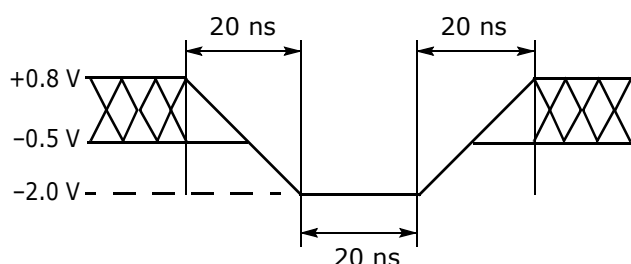
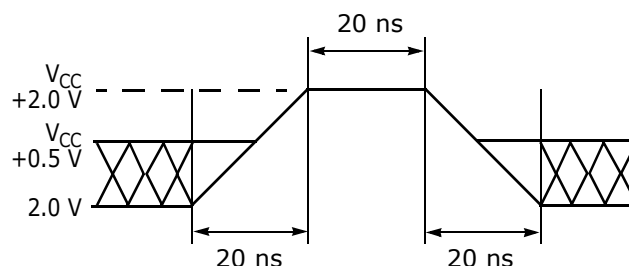

Figure 8. Maximum Negative Overshoot Waveform
Figure 9. Maximum Positive Overshoot Waveform
1. Minimum DC voltage on input or I/O pins is –0.5 V. During voltage transitions, input or I/O pins may overshoot V_{SS} to –2.0 V for periods of up to 20 ns. Maximum DC voltage on input or I/O pins is $V_{CC} + 0.5$ V. See Figure 8. During voltage transitions, input or I/O pins may overshoot to $V_{CC} + 2.0$ V for periods up to 20 ns. See Figure 9.
2. Minimum DC input voltage on pins OE#, RESET#, and WP#/ACC is –0.5 V. During voltage transitions, OE#, WP#/ACC, and RESET# may overshoot V_{SS} to –2.0 V for periods of up to 20 ns. See Figure 8. Maximum DC input voltage on WP#/ACC is +9.5 V which may overshoot to +12.0 V for periods up to 20 ns.